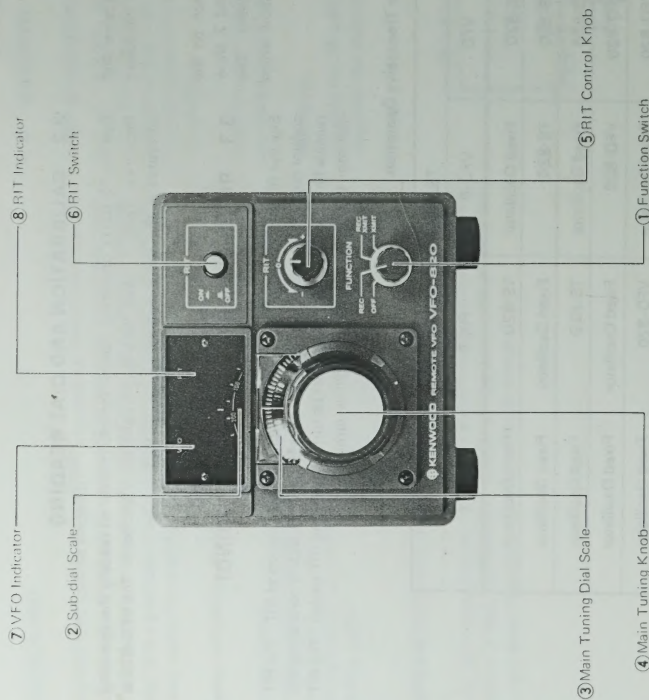

Fig. 2 Front Panel View
2.1 FRONT PANEL CONTROLS (See Figure 2)
FUNCTION SWITCH (1 on Figure 2)
SUB-DIAL (2 on Figure 2)
MAIN TUNING DIAL SCALE (3 on Figure 2)
MAIN TUNING KNOB (4 on Figure 2)
RIT CONTROL KNOB (5 on Figure 2)
RIT SWITCH (6 on Figure 2)
VFO INDICATOR (7 on Figure 2)
RIT INDICATOR (8 on Figure 2)